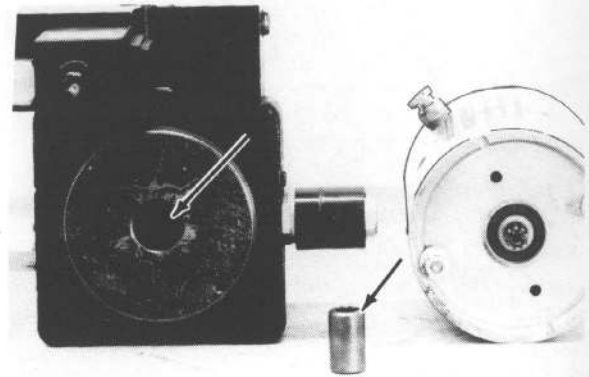

Figure 2-30
3. Install coupler onto pump input shaft. See Figure 2-30.